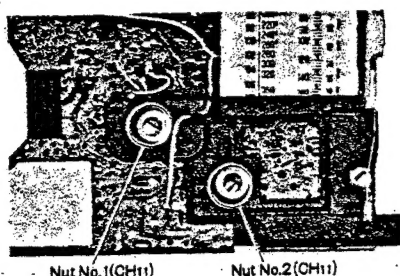

Fig. 6
5. Remove the two (2) nuts for the fine tuning and band switch, as shown in fig. 6.